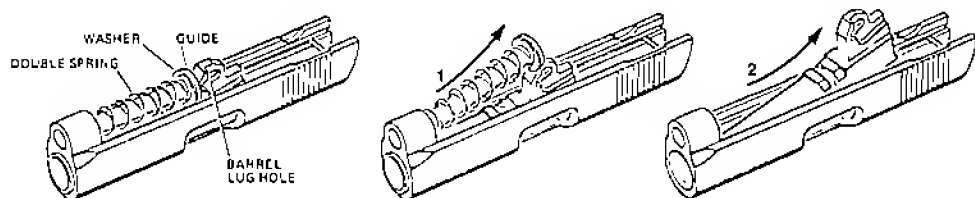

FIGURE 7-REMOVING BARREL
5. Take up tension of recoil springs, then lift springs and recoil spring guide up and out of the slide. (See Figure 7).